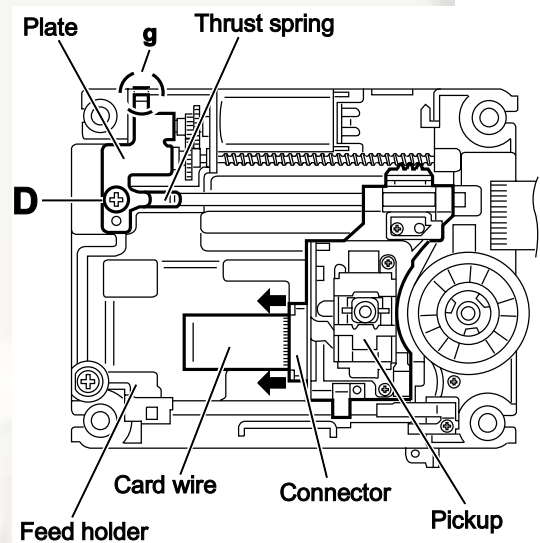

Fig.7
- Release the lock of the connector on the pickup in the direction of the arrow and disconnect the card wire. (See Fig.7.)
- Remove the screw **D** attaching the plate and thrust spring. (See Fig.7.)
- Remove the engagement section **g** attaching the plate to the feed holder and remove the plate with the thrust spring. (See Fig.7.)
- (3) Attach the plate and thrust spring. (See Fig.7.)
3.2.6 Removing the feed motor (See Figs.7,11 and 12)
- (1) From the top side of the traverse mechanism assembly, remove the screw **D** attaching the plate and thrust spring. (See Fig.7.)
- (2) Remove the engagement section **g** attaching the plate to the feed holder and remove the plate with the thrust spring. (See Fig.7.)